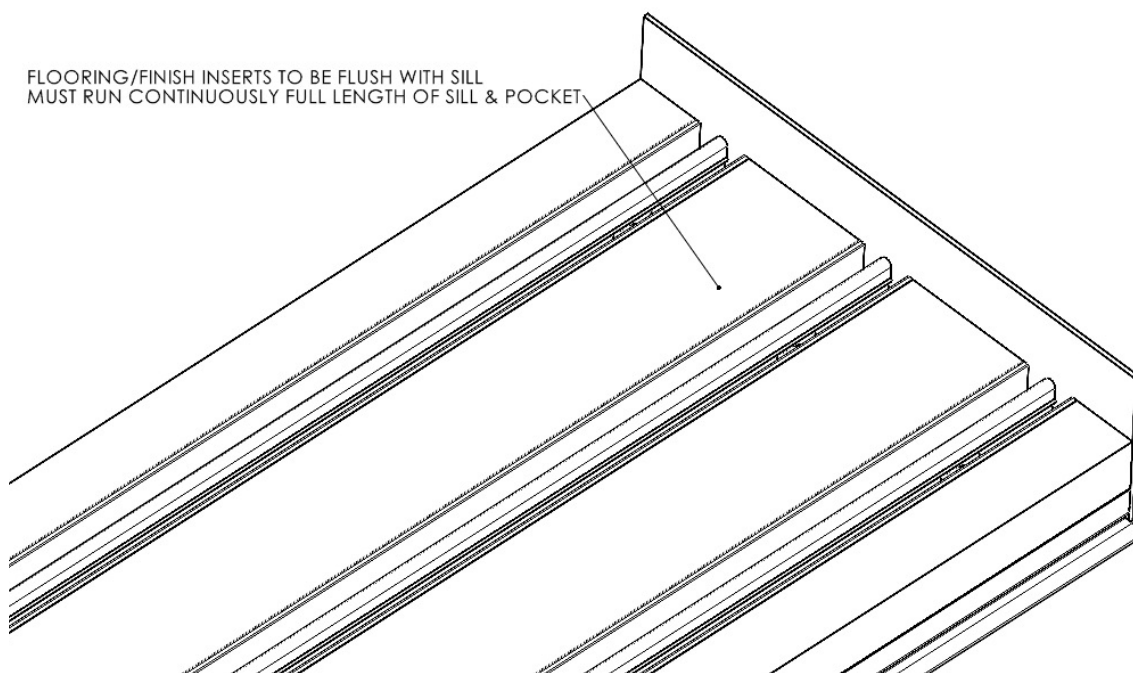

Figure 8
- No water management (sill with no weeps or drain fitting) (See Figure 8)
9. **Sill with No Weeps** - Sills with no weeps or drain fitting (no water management) shall have flooring fillers flush with the top of the sill and run the length of sill and full length of pocket. (See Figure 8).